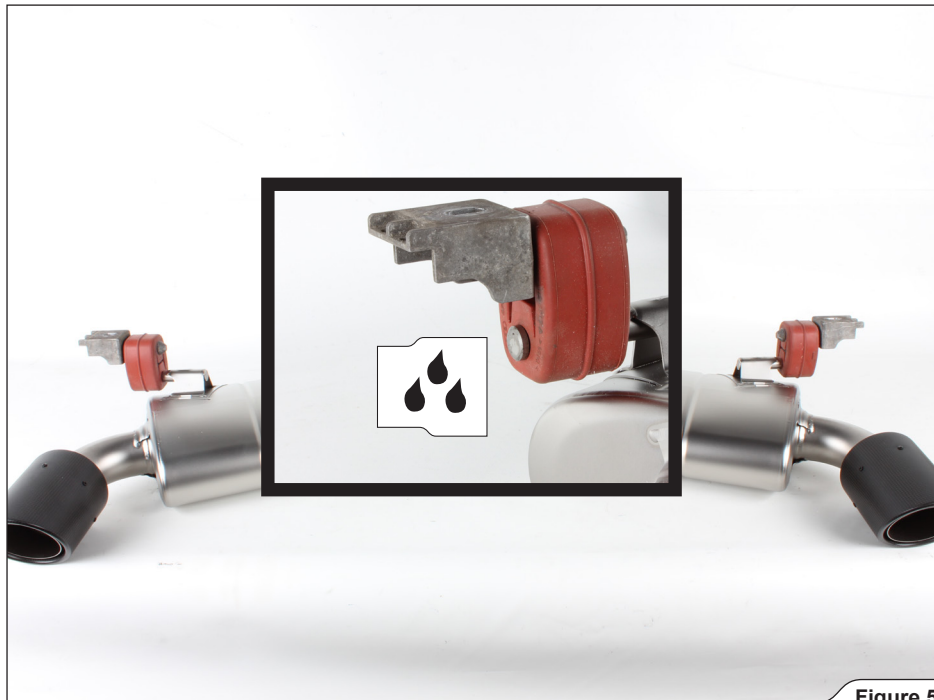

Figure 5
1. Attach the stock rubber brackets onto the Akrapovič muffler, as shown (**Figure 5**).